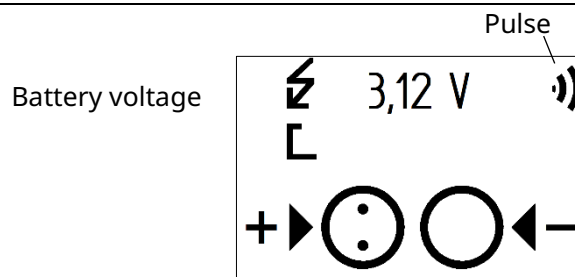

Figure 25: Measurement Screen example (other)
If the Ulyser is successfully connected to a non Novega-ULD/LF-ULD, the following is shown (Figure 25):
5.5.5 The Measurement Screen (Figure 25) appears and the voltage value is displayed. After three seconds the Ulyser repeats the emitted signals of the ULD by signals audible for the human ear ("beep"). Maintain the connection (Figure 39).	 Figure 39: Check the acoustic signal and maintain connection
5.6.5 The Measurement Screen (Figure 25) appears and the voltage value is displayed. After three seconds the Ulyser repeats the emitted signals of the ULD by signals audible for the human ear ("beep"). Maintain the connection (Figure 43).	 Figure 43: Check the acoustic signal and maintain connection